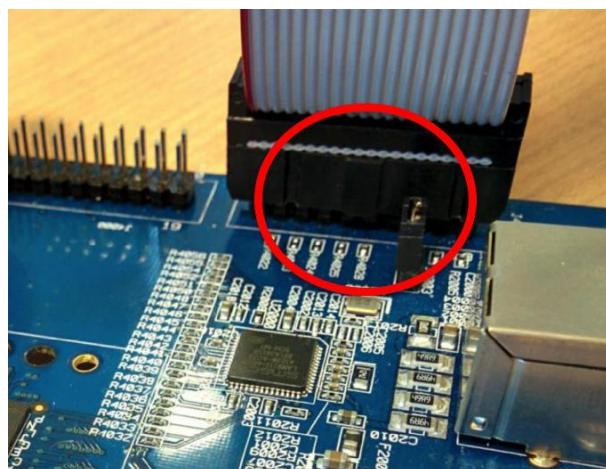
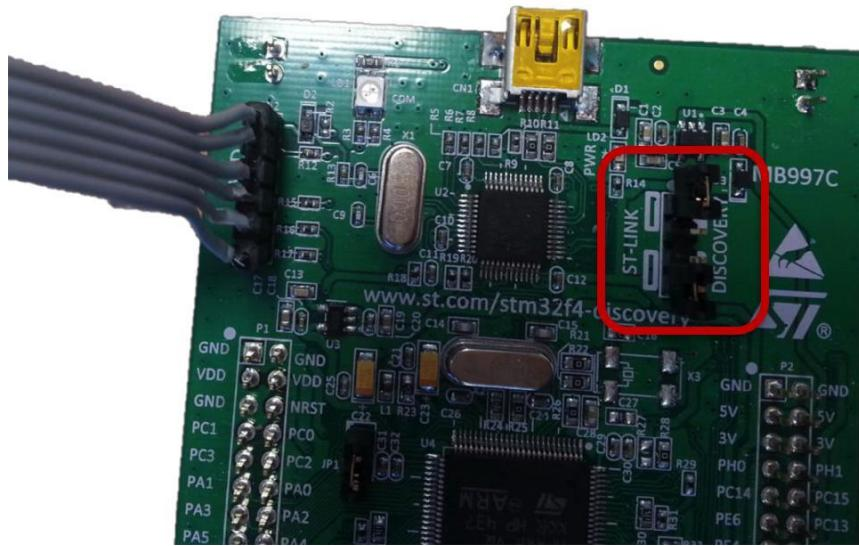

Figure 43 - Connection between the STLink/v2 programmer and the **SEcube™ DevKit**, close-up (highlighted in red) on the JTAG connector orientation
Figure 44 – Jumpers configuration to isolate the ST-Link programmer on a Discovery board (highlighted in red, the same applies to Nucleo boards)
The system assembled is shown in Figure 43, while a close-up on the JTAG connection is in Figure 44.
1. Isolate the programmer from the rest of the board by moving the jumpers to reach the configuration shown in Figure 44 and described in the STM32 Nucleo-64 boards user manual²⁵